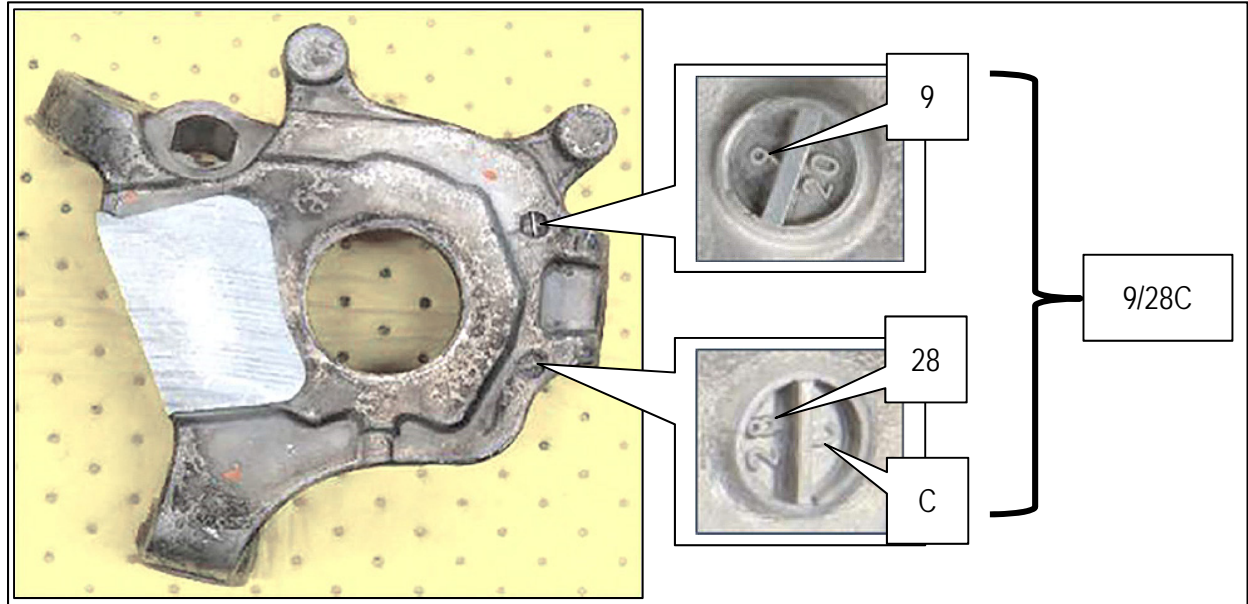

Figure 19
15. Locate the casting stamp dates on each suspension knuckle, where indicated in Figure 19.